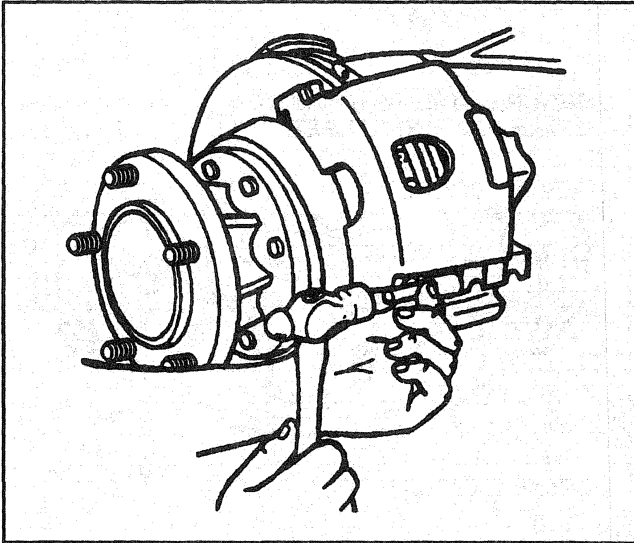

Figure 5—Removing the Caliper Support Key
- Use a brass punch and a hammer to drive the support key out (Figure 5).